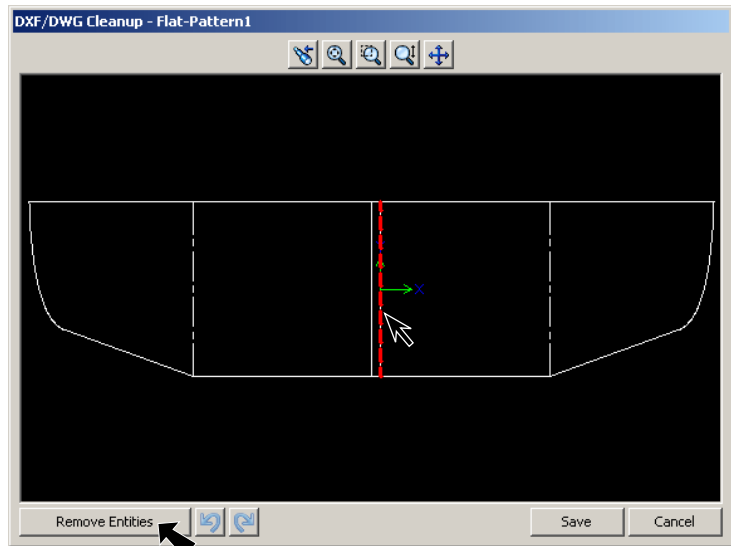
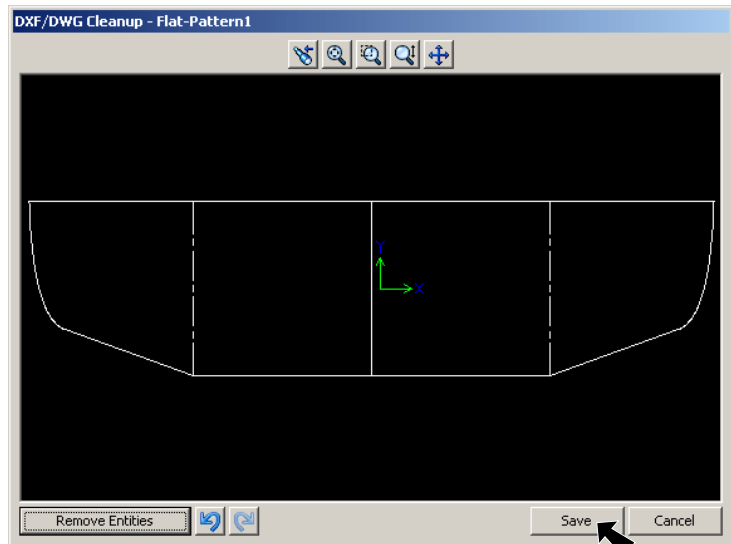

Fig. 32
Fig. 33
select line and click **Remove Entities**, **Fig. 32** and **Fig. 33**.
Step 5. Click Save, **Fig. 33**.